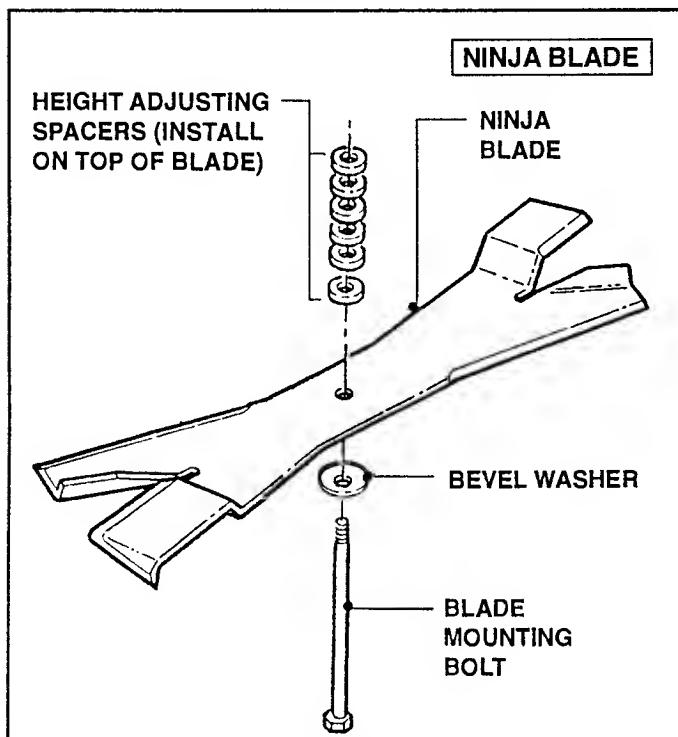

FIGURE 9.8
- B. Install all Spacers on top of Blade. See Figure 9.8.